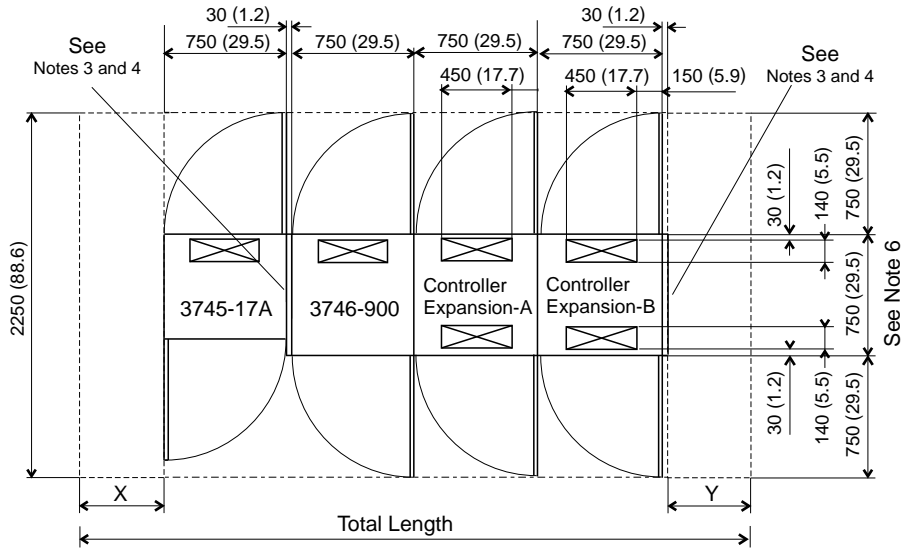
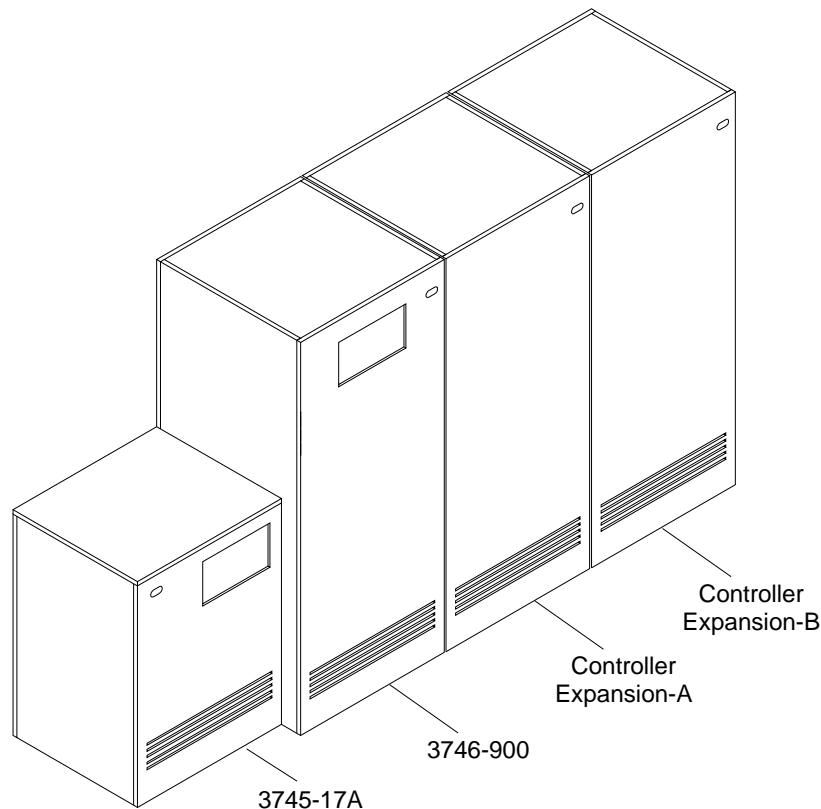
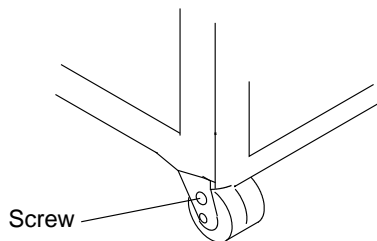

Figure 1-1. 3745-17A/3746-900/Controller Expansion Plan View
Figure 1-2. 3745-17A/3746-900/Controller Expansion
Figure 1-5. Caster Lock Screw
- Step 6. ___ Make sure that the installation area is in accordance with Figure 1-1 on page 1-6. If not, inform the customer.
Note: Figure 1-1 and Figure 1-2 represent the installation of a 3745-17A with a 3746-900 and a controller expansion attached to the 3746-900 frame. Any combination of these three frames can exist. the controller expansion can also be detached from the other frames, in that case refer to Figure 1-3 on page 1-7 and Figure 1-4 on page 1-7.
- Step 6. ____ Move the frame to its final position (see Figure 1-1 on page 1-6), and tighten the rear caster lock screws (see Figure 1-5).